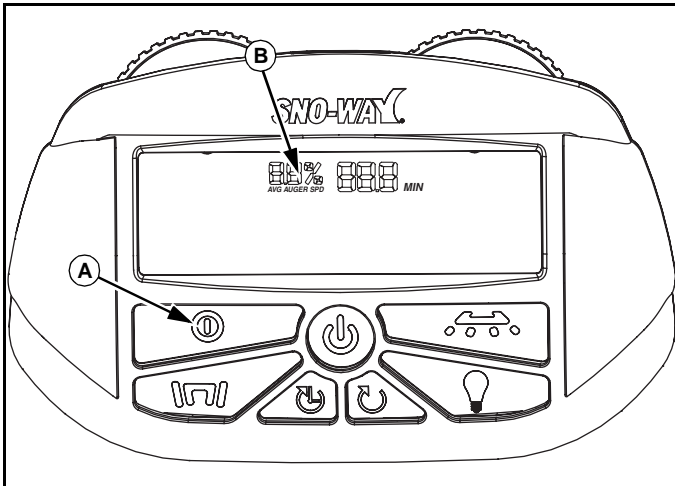

Figure 1-8
When the controller first turns on, it begins in Pause Mode. Press the Pause/Run Button (A) while the spreader is running to put it into Pause Mode. The auger and spinner motors will stop rotating; the vibrator and wetting system will shut off. The display on the control will show the Average Auger Speed (B) and the main timer level; however the timer will be stopped, because the auger is stopped. The auger and spinner adjustment knobs can be manipulated during pause mode, and the auger and or spinner display will illuminate indicating the motor speed level. (See Figure 1-8.)